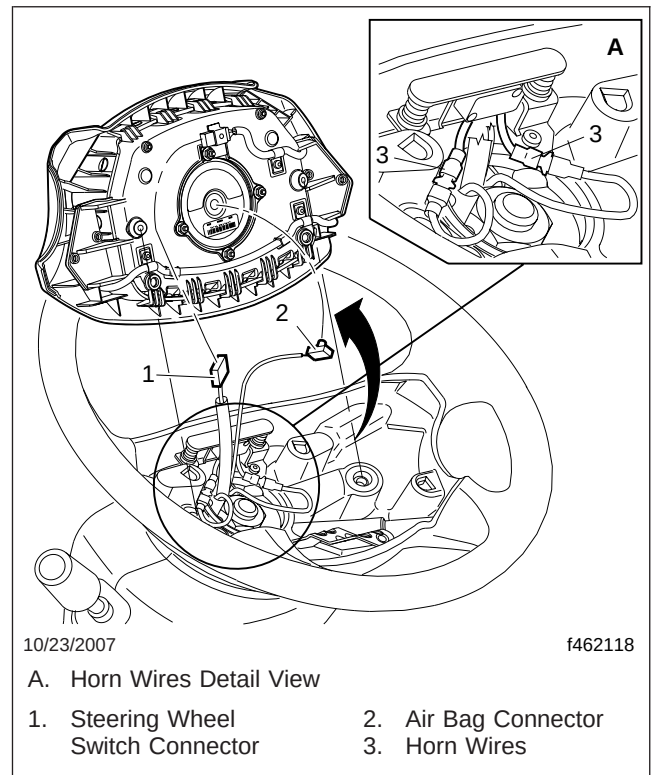

Fig. 2, Air Bag Module Connections
4. Carefully lift the air bag from the steering wheel, and disconnect the air bag connector and the steering wheel switch connector from the air bag; see Fig. 2. Disconnecting the horn wires is not necessary.